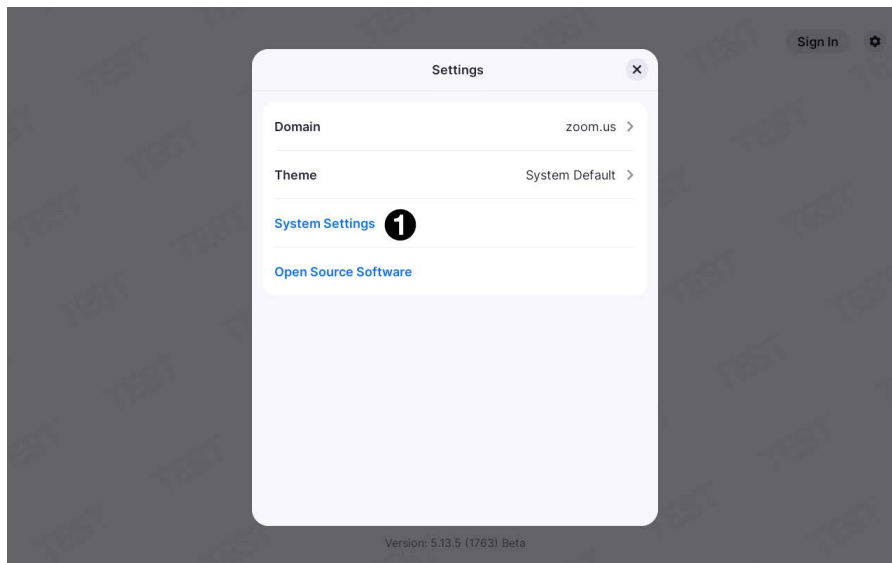

Figure 6. Settings Menu
3. Click **System Settings** (see figure 6, ❶).